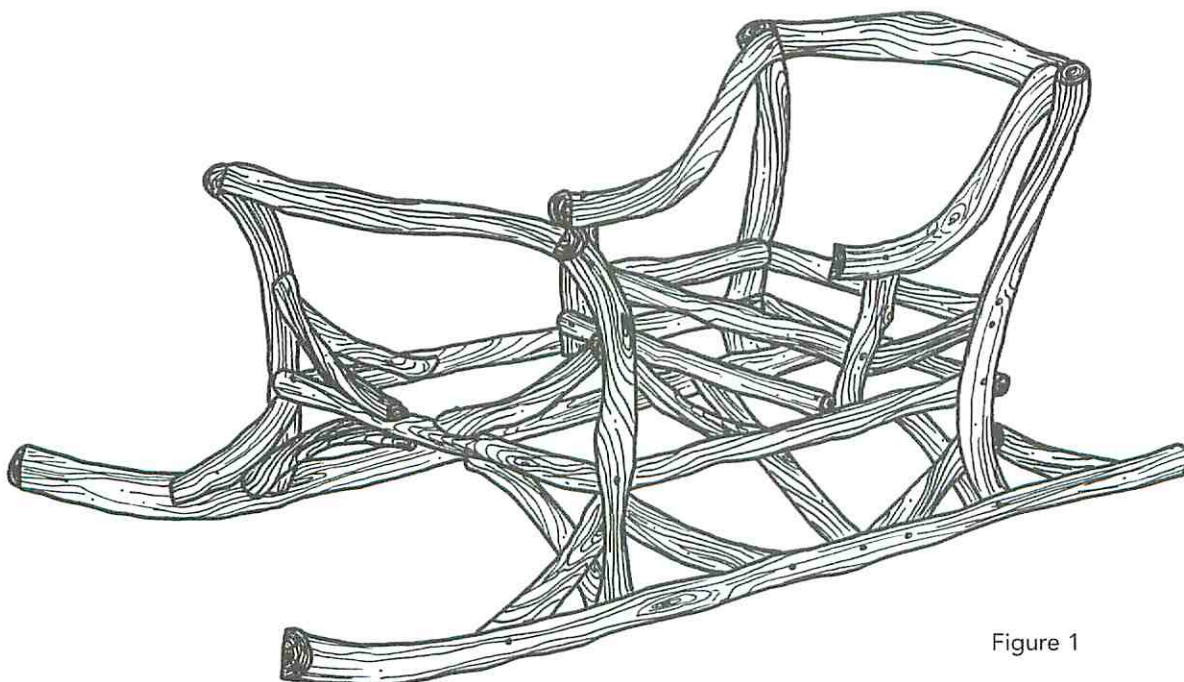

Figure 1
Next, you will bolt the front seat rails (H) in position, as in Fig. 1. Do the same for the side seat rails (I) and rear seat rail (J). The last parts of the basic frame are the arms (K). Be sure to use lag bolts for these.
Next, you will want to brace the sleigh. Bracing is very important for this structure. Look at Fig. 1 for guidance. Don't be afraid of overdoing it – too much bracing is better than too little.